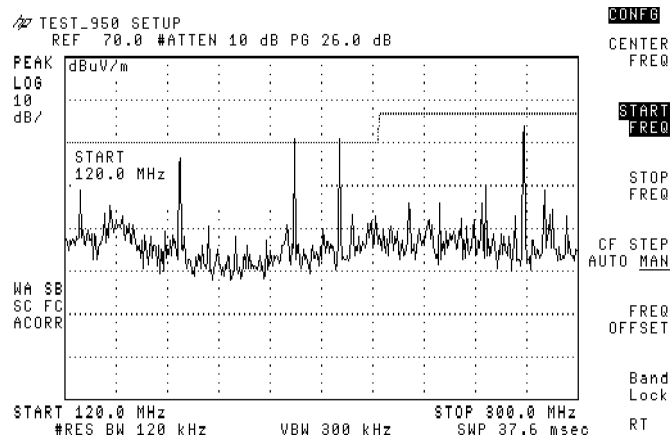

Figure 3-41. Selecting a Start Frequency of 120 MHz
7. Press **START FREQ**, 120, **MHz**. See Figure 3-41.